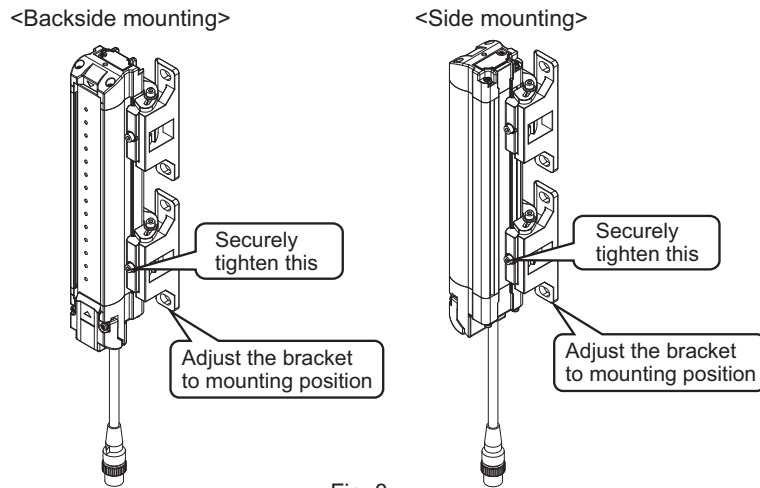

Fig. 3
- Adjust the Standard Adjustable Bracket to the mounting position of the wall surface. Securely tighten the Screw (2) to fix the Standard Adjustable Bracket to the housing of the F3SG-R. The recommended torque to tighten the Screw (2) is 2.0 N·m. (Fig. 3)